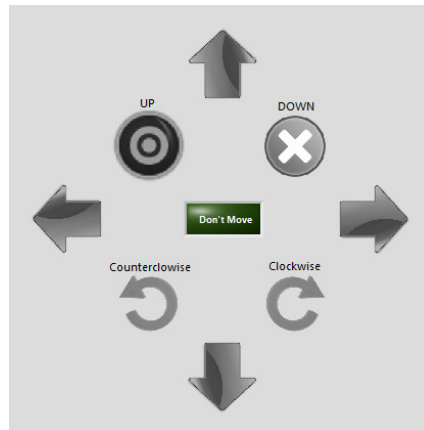
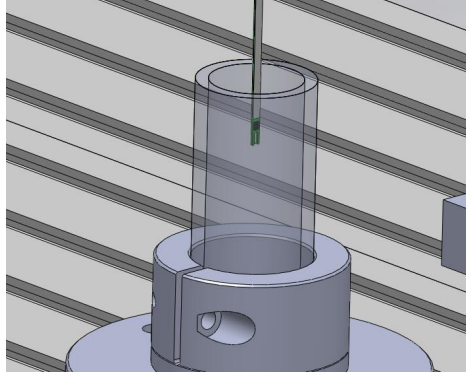

Figure 16: Driving arrow icons
Figure 17: Probe positioned inside of the Zero Gauss chamber
- 7) Using the arrow icons (Figure 16) position the probe into the Zero Gauss chamber, installed on the table (Figure 17). In order to move the probe, press and hold the appropriate arrow icon. While holding, the arrow will turn green. The whole probe (black part at the tip of the probe holder) should be inside the Zero Gauss chamber;